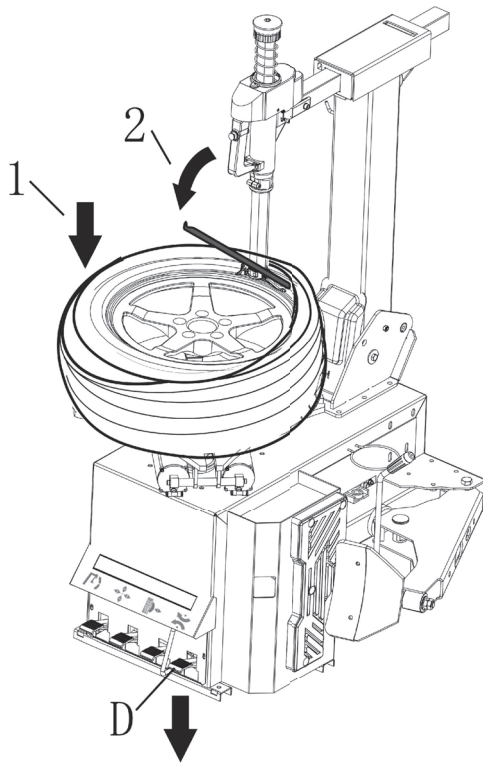
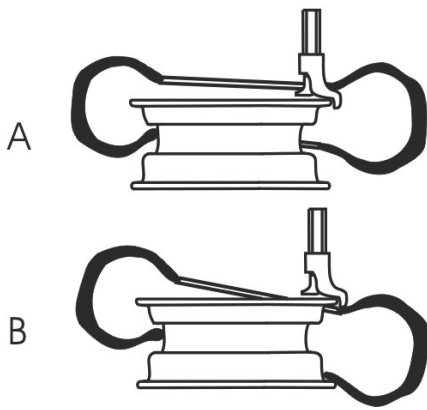
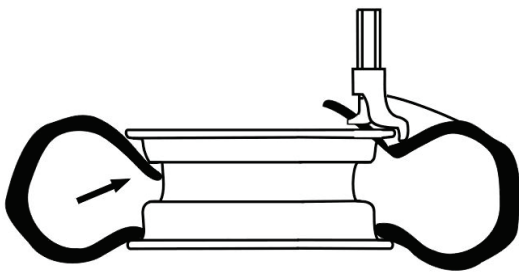

Fig.22
Fig.28
Fig.29
- Insert lever into wheel near mounting head (Fig. 22).
- Press pedal D (Fig. 22), turntable turn clockwise, until edge of wheel fall off.
- *If the demounting process is prevented, stop the turntable from turning around, lift pedal D (fig. 22), let the turntable turn anti-clockwise.*
- Press down the central part of the tire. Depress the pedal D (Fig.22) to turn the turntable clockwise, making the lower tire bead fall into the rim groove completely (as fig.28-A).
- To install the upper tire bead, place the tire well and readjust position of the tire bead (same as mount of the lower tire bead in Fig.28-B). Press down the tire opposite to the mount/demount head to the rim groove (Fig.29).
- Depress the pedal D (Fig.22) to turn the turntable while keeping pressing on the tire. When only 10~15cm is left, slow down to avoid damage of the tire bead. Stop the motor if there is any indication for damage. Lift the pedal D and turn the turntable counter-clockwise. Try again when the tire is back to the original shape.